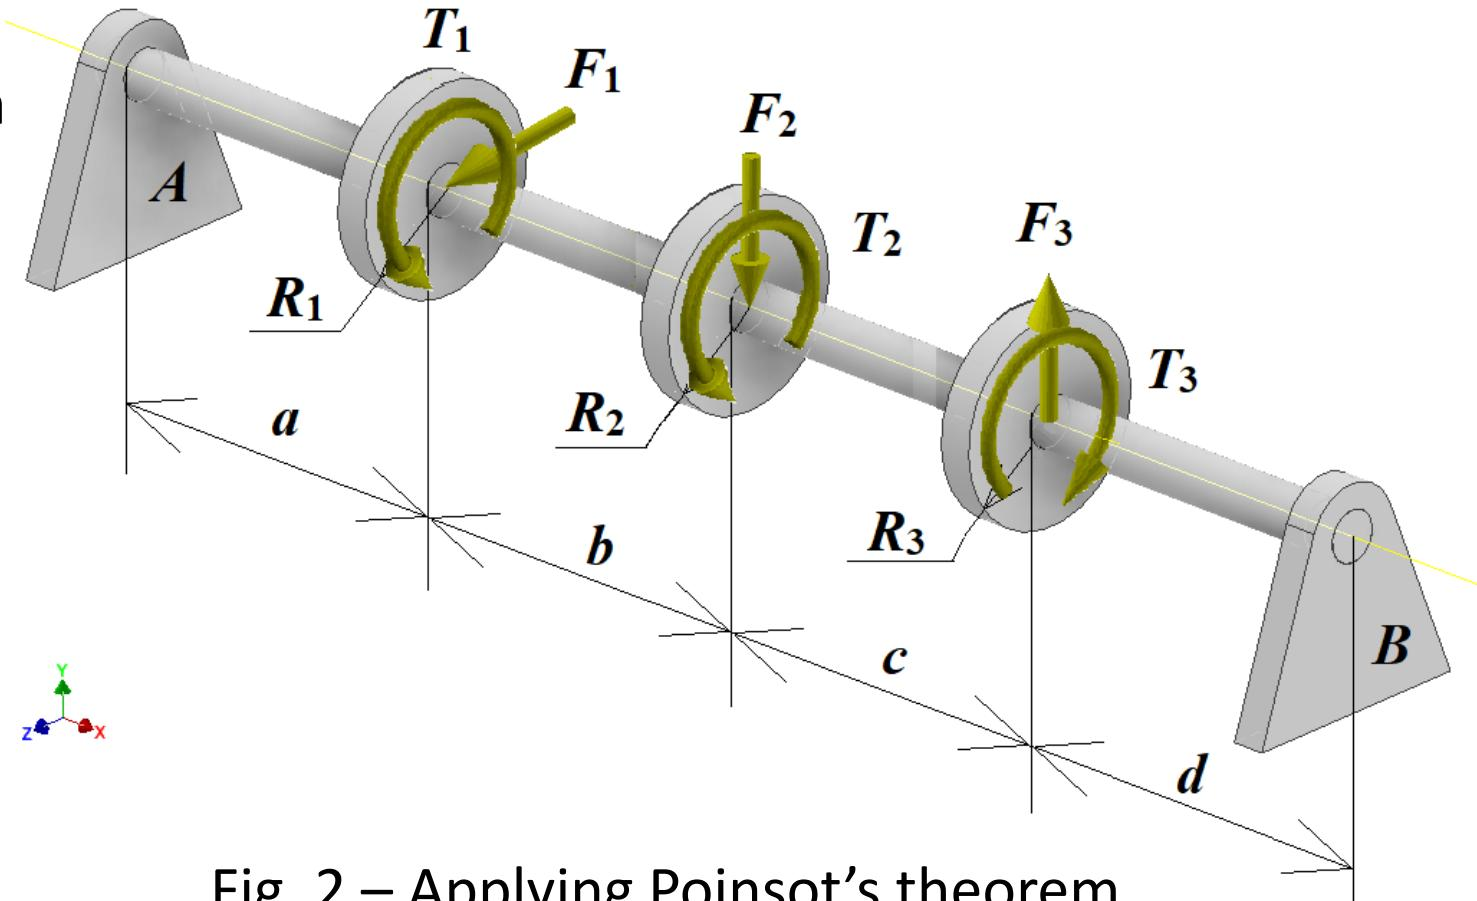

Fig. 2 – Applying Poinsot's theorem
1. Apply Poinsot's theorem by replacing each tangential force by an axial force and a couple of forces (torque) (Fig. 2).